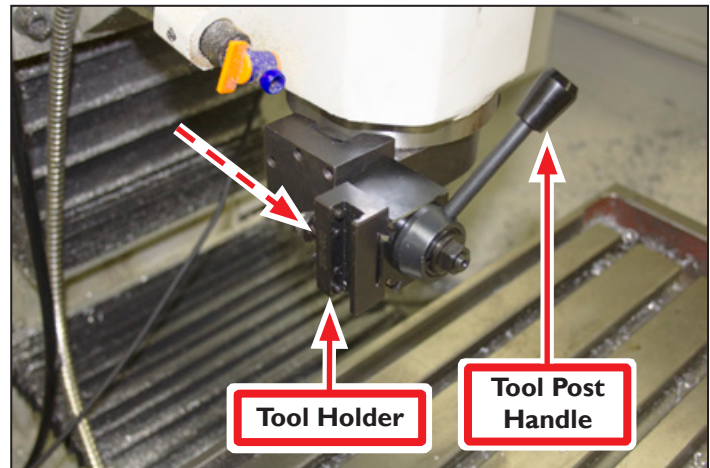

Figure 2.22
10. Screw knob into Tool Post Handle; screw Tool Post Handle into tool post (see **Figure 2.22**) and tighten until finger-tight.
11. Slide Tool Holder on to tool post in direction shown in **Figure 2.22**; tighten Tool Post Handle to secure tool holder in place.